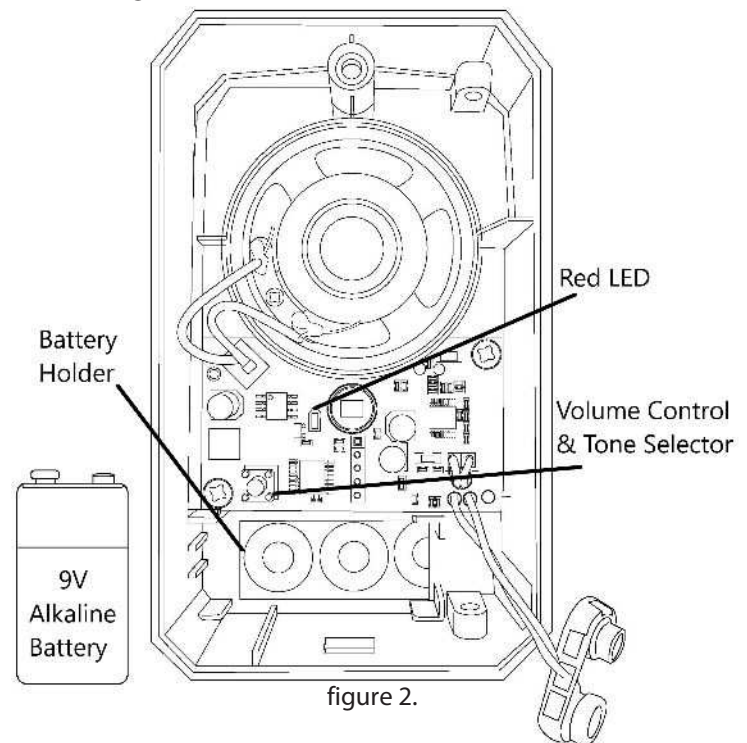

figure 2.
2. Remove top half of case from lower half of the case to find the battery holder (see figure 2).
1. Hold down the "volume control and tone selector" button for approximately 3 seconds until the RED LED on the board is lighted (see figure 2). The solid red light lets you know the unit is in **program mode**. When the LED is red, release the button.
- 2. To adjust the volume, press the "volume control and tone selector" button until the desired volume level is reached (see figure 2).